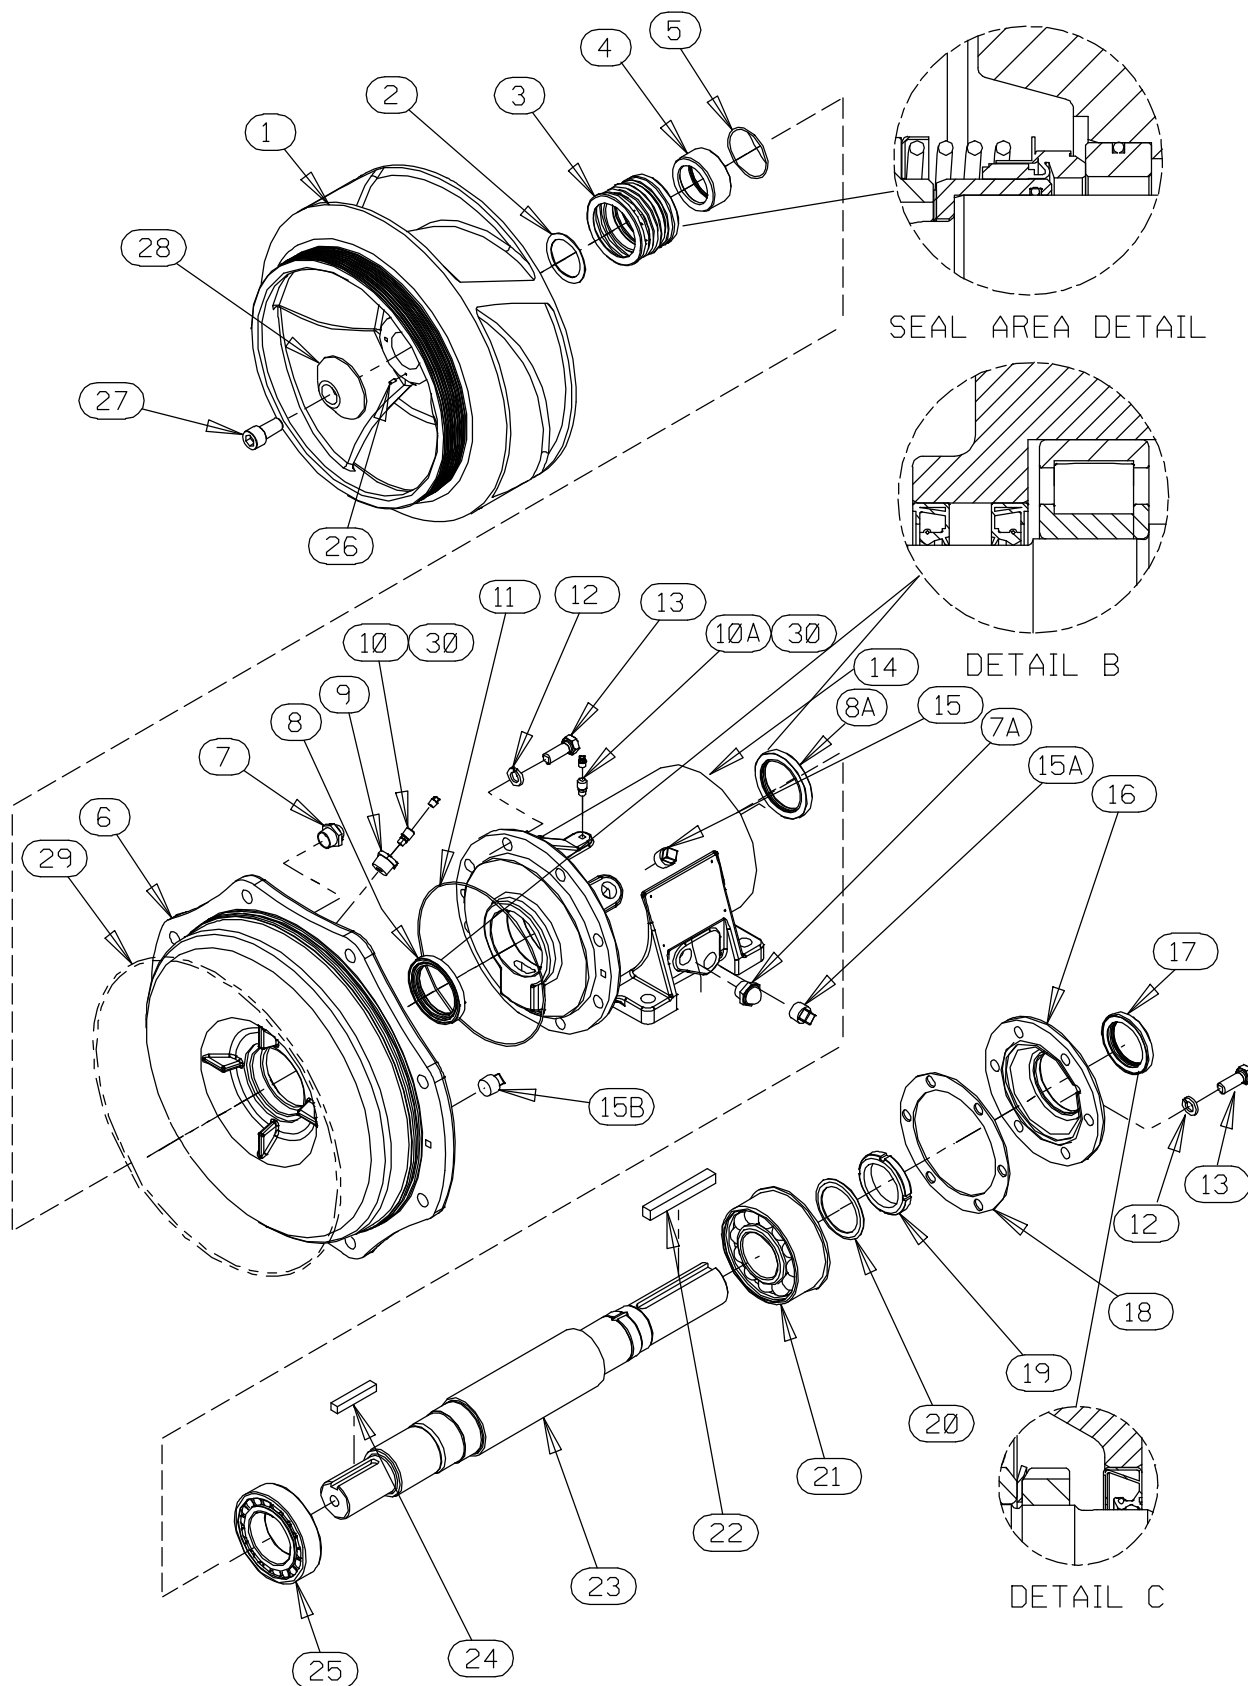

Figure 2. Repair Rotating Assembly
(Figure 2)
(Figures 2 and 3)
Further disassembly requires separating the rotating assembly from the power source. Remove the coupling securing the rotating assembly to the power source and remove the key (22, Figure 2).